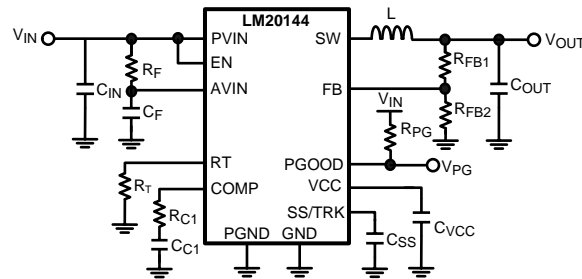

Figure 28. Typical Application Circuit
The LM20144 switching regulator features all of the functions necessary to implement an efficient low voltage buck regulator using a minimum number of external components. This easy to use regulator features two integrated switches and is capable of supplying up to 4A of continuous output current. The regulator utilizes peak current mode control with nonlinear slope compensation to optimize stability and transient response over the entire output voltage range. Peak current mode control also provides inherent line feed-forward, cycle-by-cycle current limiting and easy loop compensation. The switching frequency can be varied from 500 kHz to 1.5 MHz. The device can operate at high switching frequency allowing use of a small inductor while still achieving high efficiency. The precision internal voltage reference allows the output to be set as low as 0.8V. Fault protection features include: current limiting, thermal shutdown, over voltage protection, and shutdown capability. The device is available in the HTSSOP 16-pin package featuring an exposed pad to aid thermal dissipation. The LM20144 can be used in numerous applications to efficiently step-down from a 5V or 3.3V bus. The typical application circuit for the LM20144 is shown in Figure 28 in the design guide.
This section walks the designer through the steps necessary to select the external components to build a fully functional power supply. As with any DC-DC converter numerous trade-offs are possible to optimize the design for efficiency, size, or performance. These will be taken into account and highlighted throughout this discussion. To facilitate component selection discussions the circuit shown in Figure 28 below may be used as a reference. Unless otherwise indicated all formulas assume units of amps (A) for current, farads (F) for capacitance, henries (H) for inductance and volts (V) for voltages.
To prevent high frequency noise spikes from disturbing the sensitive analog circuitry connected to the AVIN and AGND pins, a high frequency RC filter is required between PVIN and AVIN. These components are shown in Figure 28. as C_F and R_F . The required value for R_F is 1Ω. C_F must be used. Recommended value of C_F is 1.0 μF. The filter capacitor, C_F should be placed as close to the IC as possible with a direct connection from AVIN to AGND. A good quality X5R or X7R ceramic capacitor should be used for C_F .